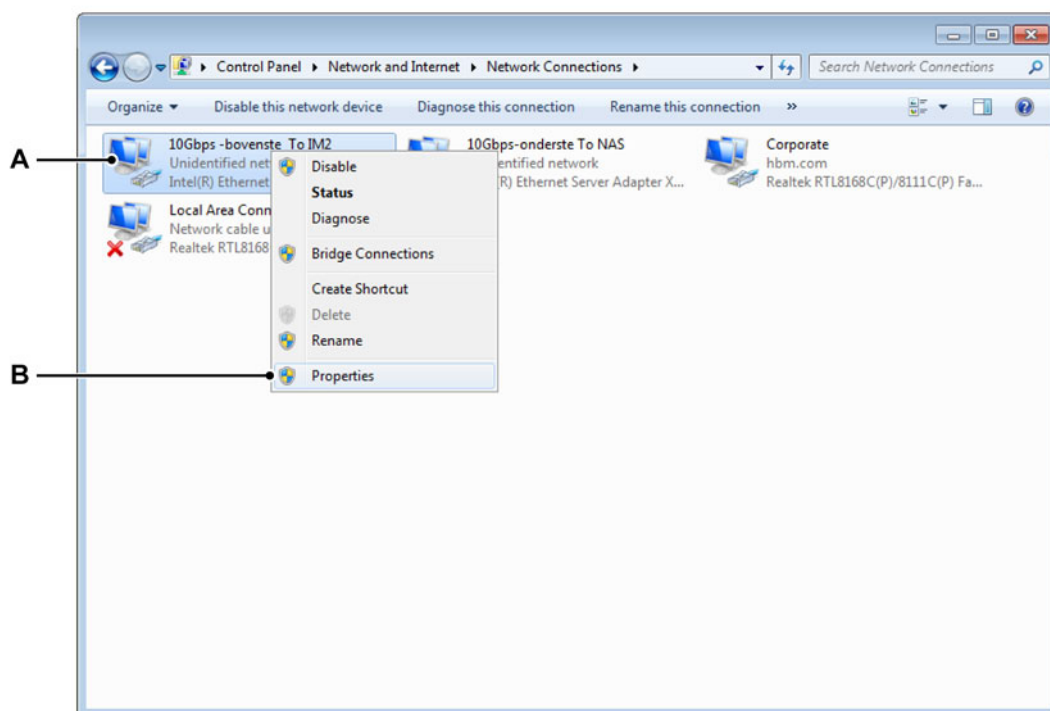

Figure I.3: Network Connections
- 3 The available adaptors in **Network Connections** should be shown as in the following Figure I.3.